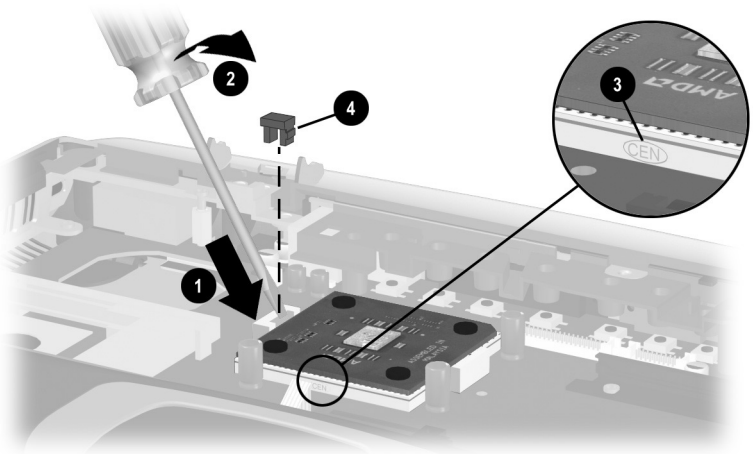

Figure 5-31. Installing the Processor
When installing the processor, insert a flat-bladed tool in the left “Lock” slot ❶ (Figure 5-31). Swing the tool to the right ❷ to seat the processor in the socket on the system board.